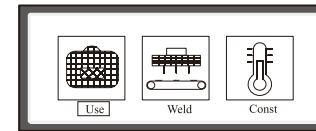
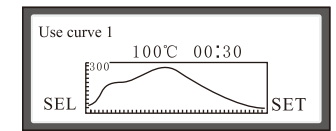
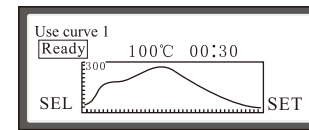
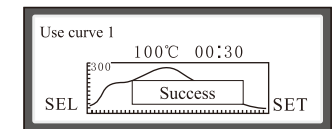

Fig. 17
Fig. 18
Fig. 19
Fig. 20
(1) After pressing “POWER SUPPLY”, “PRODUCTION” turns into highlighted state. Press “PAGE UP” button to turn “PRESET” into highlighted state, which means being selected as shown in Fig. 17. Press “RUN” button to confirm entry as shown in Fig. 18. Press “PAGE UP” button and “PAGE DOWN” button to conduct the setting of “Lead Soldering 1”, “Lead Soldering 1” and “Lead-Free Soldering”.
(2) After selecting “Lead Soldering 1”, press “SET” button to conduct setting as shown in Fig. 19. Press “SET” button to switch “Heating Zone”, “TEMPERATURE” and “TIME”. Press “PAGE UP” button and “PAGE DOWN” button to conduct the setting of “TEMPERATURE” and “TIME”. Press “RUN” button to exit as shown in Fig. 18. Press “RUN” button again to select as shown in Fig. 20. After saving the preset is successful, it will automatically switch to main interface of “PRESET”, “PRODUCTION” and “CONSTANT TEMPERATURE”, as shown in Fig. 17. After entering “PRODUCTION” interface, the time and temperature values are preset values.